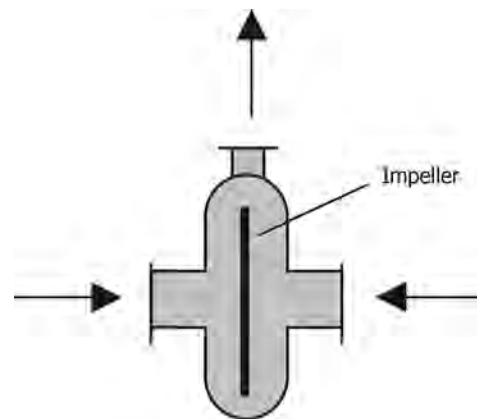

FIGURE 5.6 Double suction to a centrifugal pump.
- Figure 5.6 shows a double-suction centrifugal pump.